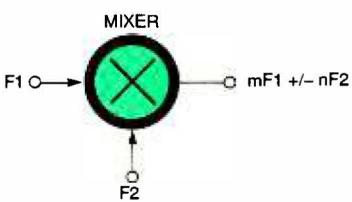

Fig. 3. In a basic mixer circuit, the sum ($F_1 + F_2$) and difference ($F_1 - F_2$) of two input frequencies appear at the output.
Frequency Translation. The process of frequency translation or conversion is called heterodyning. When two frequencies (F_1 and F_2 in Fig. 3) are mixed together in a nonlinear circuit, a collection of different frequencies will appear at the output. Those frequencies are characterized as $mF_1 + / - nF_2$, where n and m are integers or zero (0, 1, 2, 3...). For the sake of simplicity, we normally consider only the cases where m and n are either 0 or 1, so the output frequencies are F_1 , F_2 , $F_1 - F_2$ (difference), and $F_1 + F_2$ (sum). To make a superheterodyne receiver (the most common modern form), select either the sum ($F_1 + F_2$) or difference ($F_1 - F_2$) frequency as the receiver's intermediate frequency (IF). The NE602 contains a double-balanced mixer, so when it is properly impedance matched, it suppresses the two input frequencies (F_1 and F_2) at the output, and only produces the sum and difference frequencies.